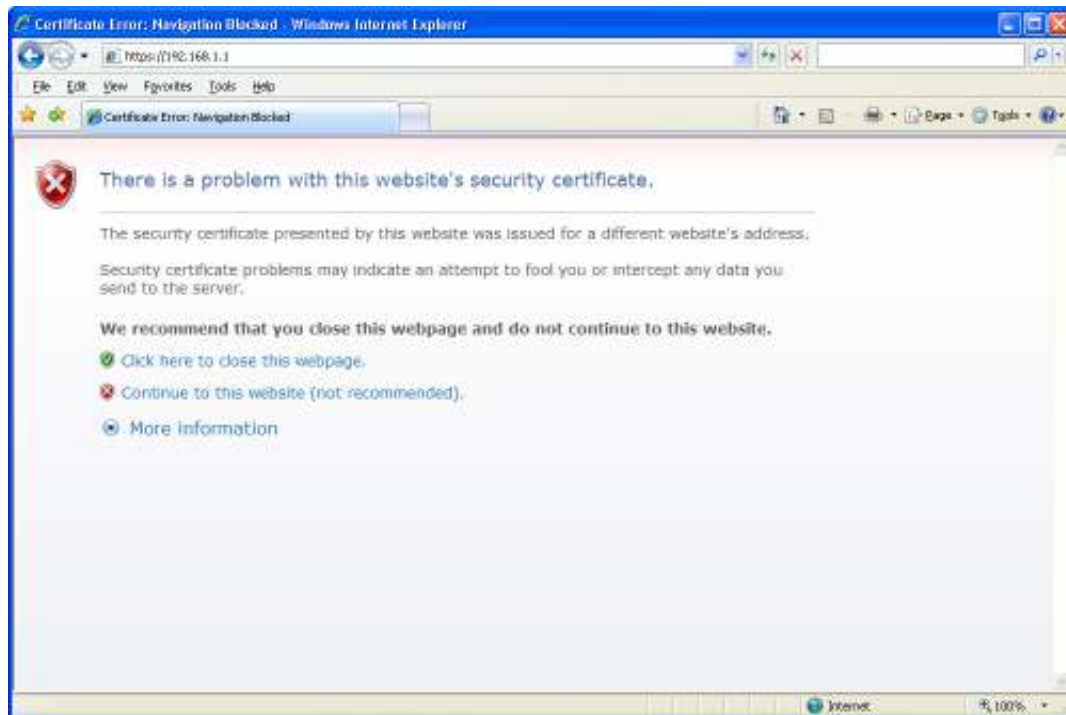

Figure 3-1. Certificate Warning
2. In the browser's address bar, type the following default IP address: `https://192.168.1.1` and press Enter. If you receive a browser certificate warning prompt as shown in Figure 3-1, select the “Continue to this website” option to proceed.